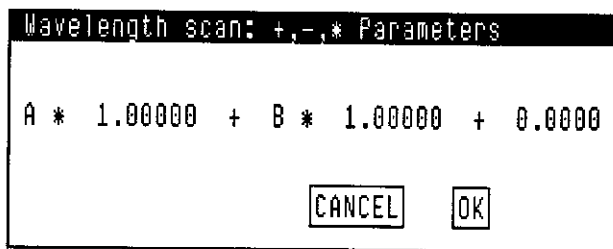

Figure 6-9. +-* Parameters Window
- To input the calculation parameters, click on "Result" in the middle of the window to display the +-* Parameters window, Figure 6-9.